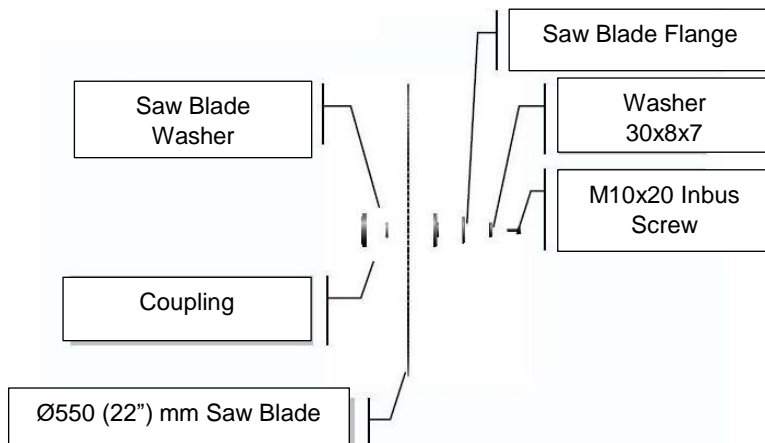

Figure 1 : Open The Control Panel And The Side Cover Plate.
- 8.1.1. Cut off the machine's electrical and air connection. Open the control panel with the front cover lock on the chassis, remove the side cover sheet metal. (Figure 1, 2)